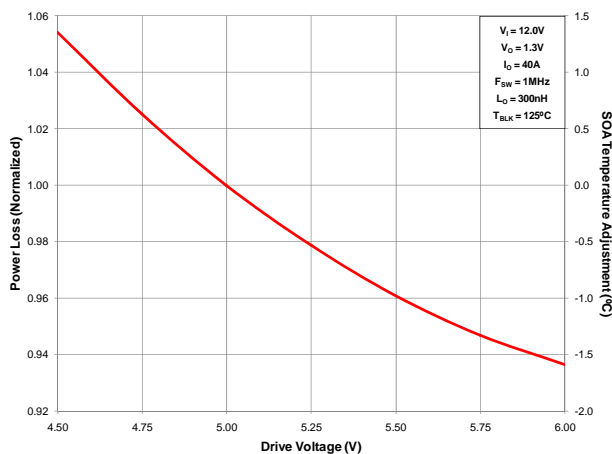

Figure 5 Normalized Power Loss versus Drive Voltage
| (Figure 5) | Normalized power loss for drive voltage (V_{DD}) ≈ 0.96 |
- (Figure 5) SOA temperature adjustment for drive voltage (V_{DD}) $\approx -0.8^{\circ}\text{C}$